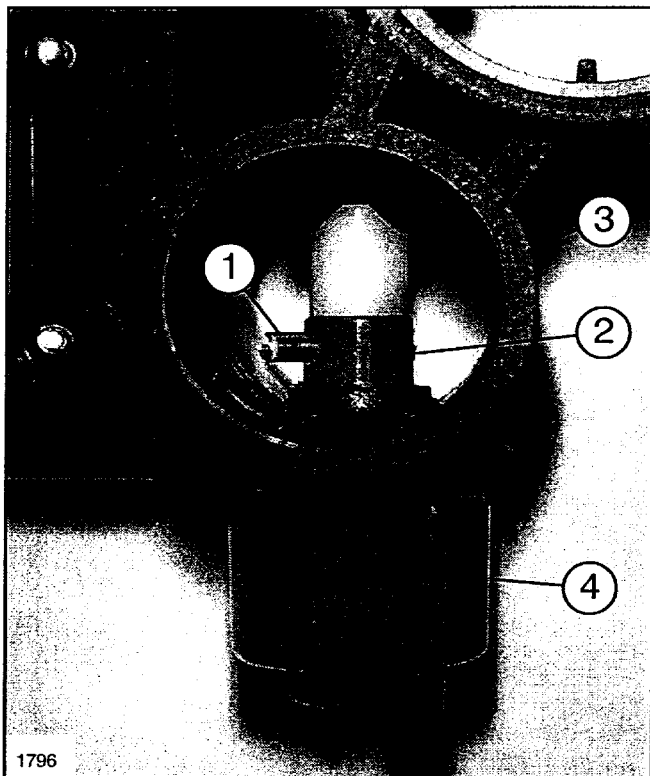

FIG. 5
3. Remove Roll Pin securing the Boom Bypass Valve to the Distribution Valve Assembly. (See FIG. 5)